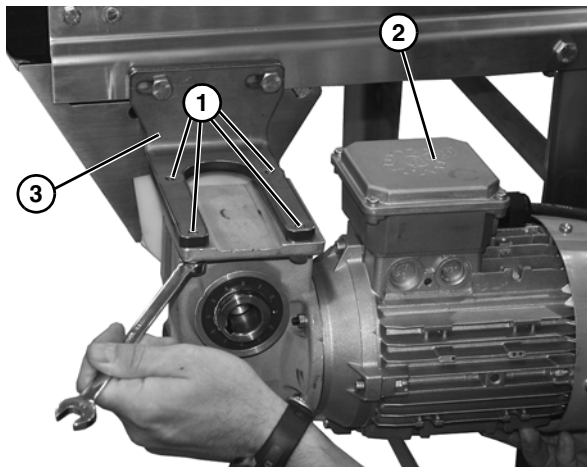

Figure 37
2. Remove the four bolts (Figure 37, item 1) attaching the gearmotor assembly (Figure 37, item 1) to the mounting bracket (Figure 37, item 3).